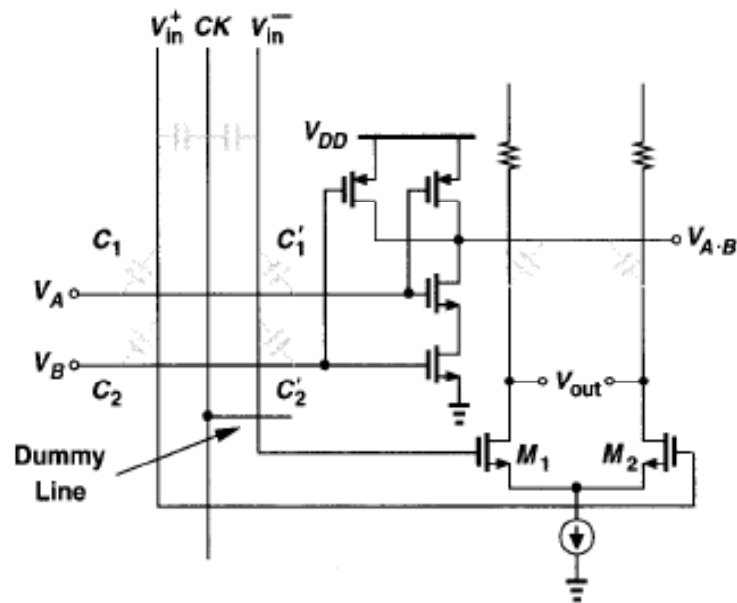

Figure 18.39 Reduction of capacitive coupling through the use of differential signaling.
- Fig. 18.39: Cancellation through differential signaling. Shielding is another technique..